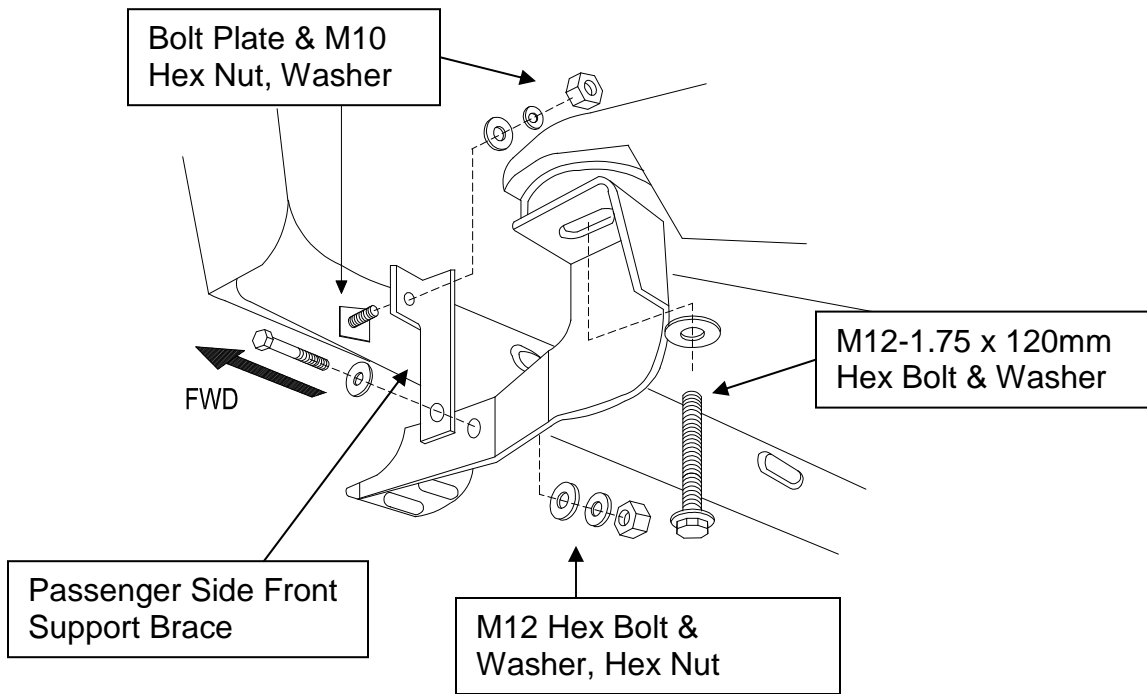
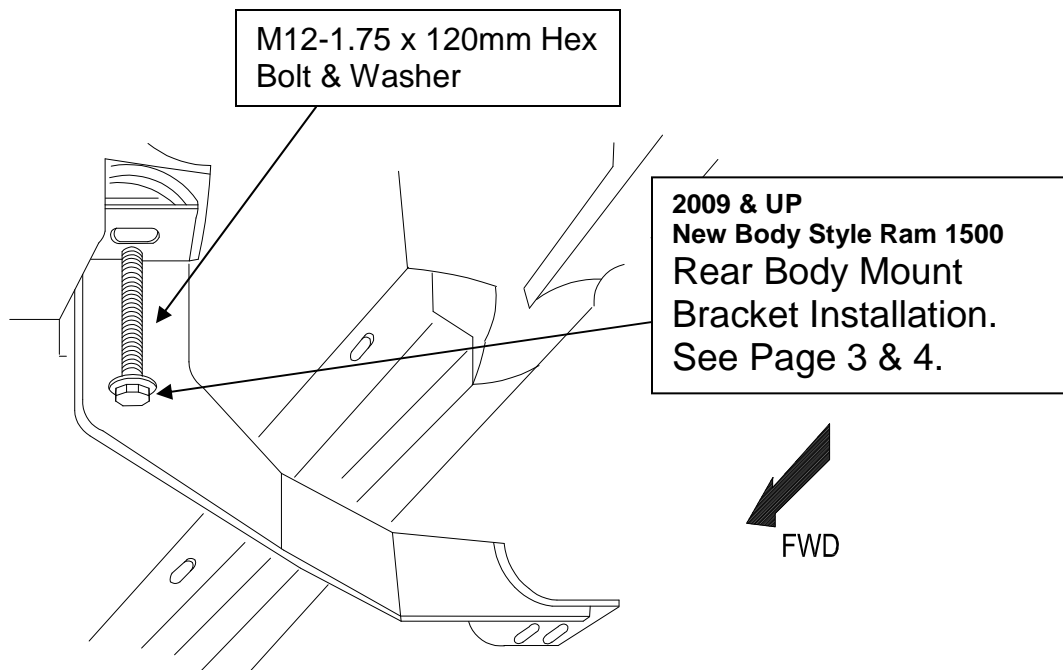

Figure 1. Passenger Side – Front Bracket
Figure 2. Passenger Side – Rear Bracket
3. 2002-2008 Ram 1500 Rear Body Mount Bracket installation: Remove existing body mount bolts as shown (see Fig. 1 and Fig. 2).
4. Install front and rear passenger brackets as shown using M12-1.75 x 120mm Hex Bolt or existing body mount bolt (see Fig 1 and Fig. 2).
5. Attach plastic washer to bolt plate. Insert bolt plate into hole on inside wall of rocker panel (see Fig. 1). Connect support brace to bolt plate and main front bracket. Hand tighten.